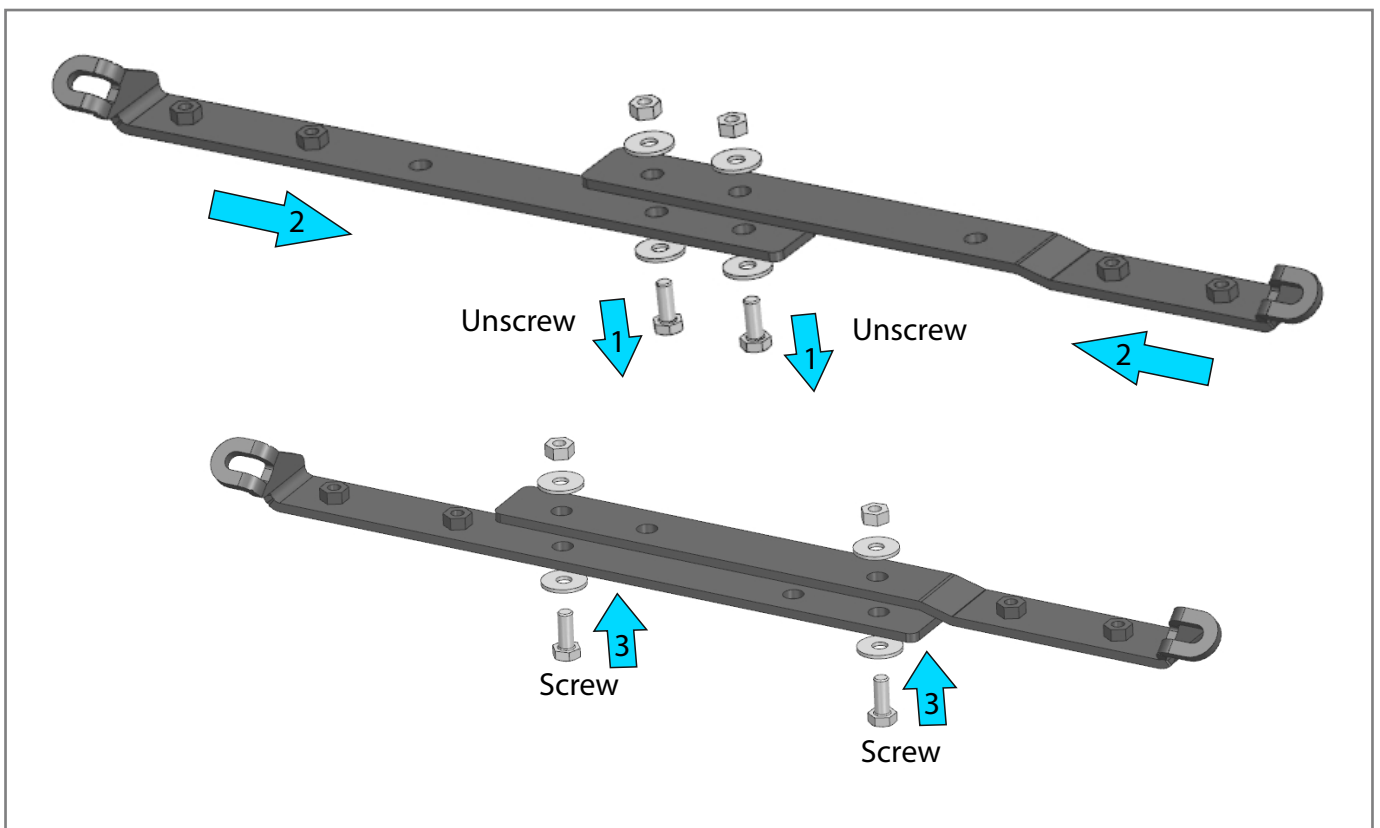

Fig. 3
3. Shorten the bracket (item 2) for **Subaru Crosstrek/XV** as shown in fig.3